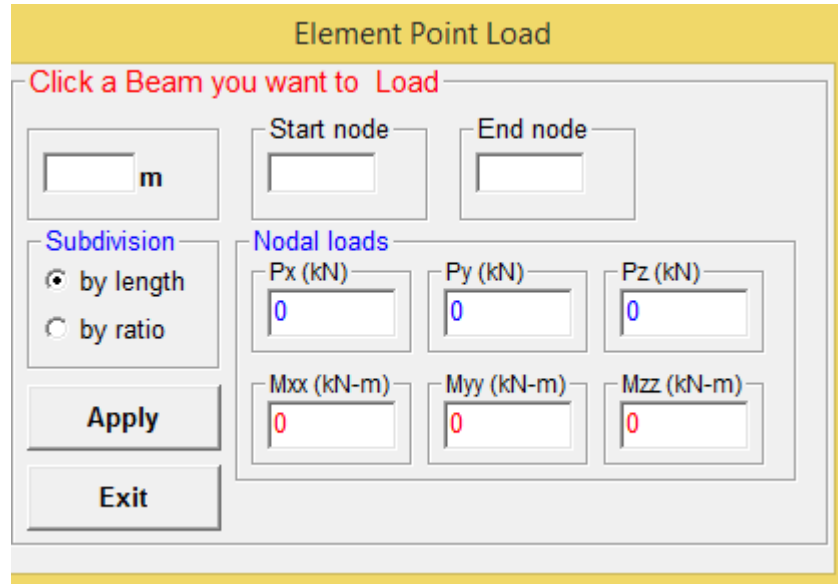

Figure 57
**Notes:** In Figure 55, if the button 'Draw offset' is clicked, Figure 57 will appear. The X, Y, and Z location offset values are eccentricities used to plot the point loads in the model. This eccentricities for plotting the load in the model are useful it is hard to see the point loads when obstructed by the frame elements. Point loads plotted at a distance from the node helps in viewing the loads. These X, Y, and Z location offset values do not affect the model or the analysis.
**Step 1:** Click button  Figure 57 will then appear.